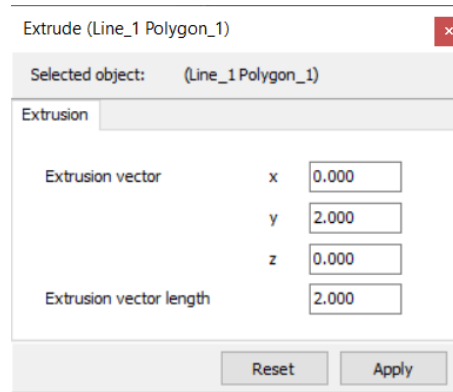

Figure 6–3: Extrusion window
5.  Click the **Extrude object** button. Assign a value of 2 to the y-component of the extrusion vector as shown Figure 6–3 \(p. 118\) and click **Apply**.